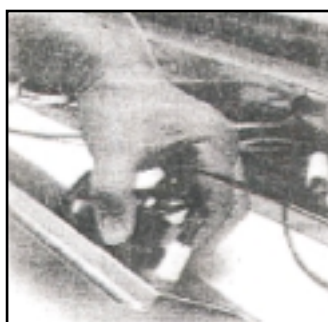

Figure 15
4. From the back side of the front panel, depress the plastic tabs on the base of the power switch and push it out the front of the panel. (Fig. 15)